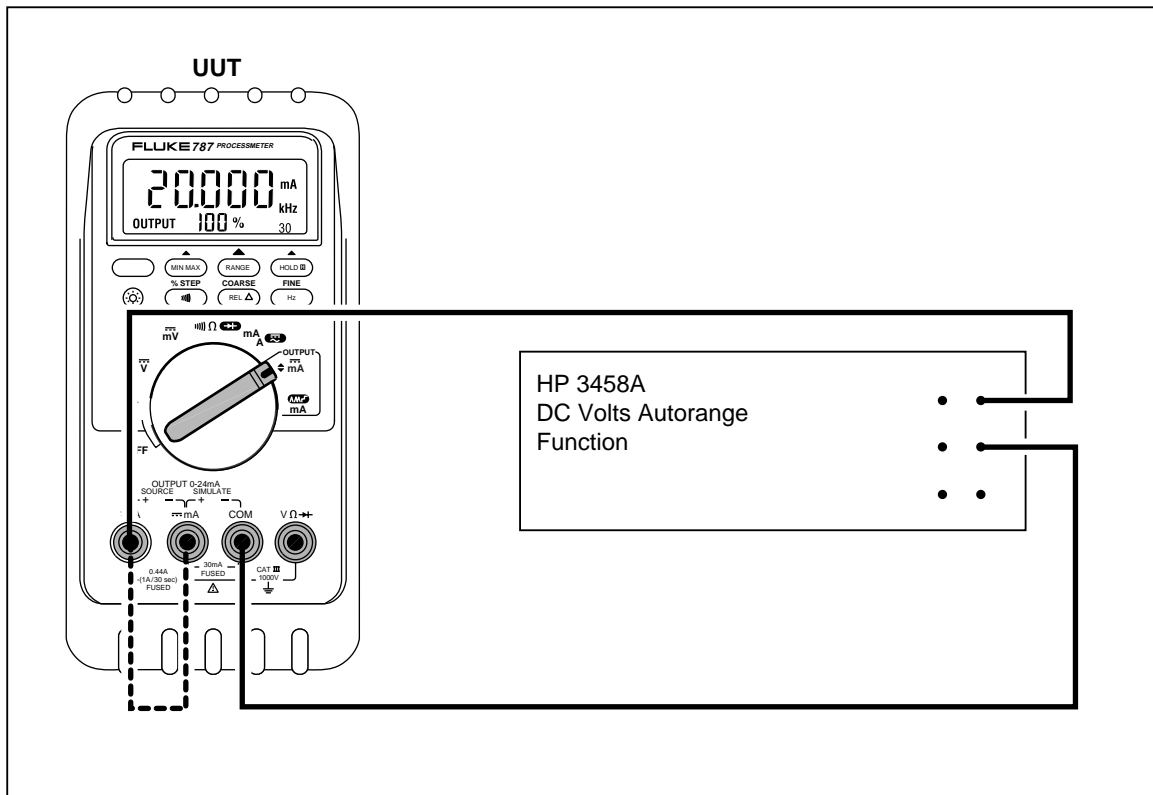

Figure 3. Verifying Loop Power
2. Connect the voltage input terminals of the multimeter to the **SOURCE +** and **COM** terminals on the UUT as shown in Figure 3.